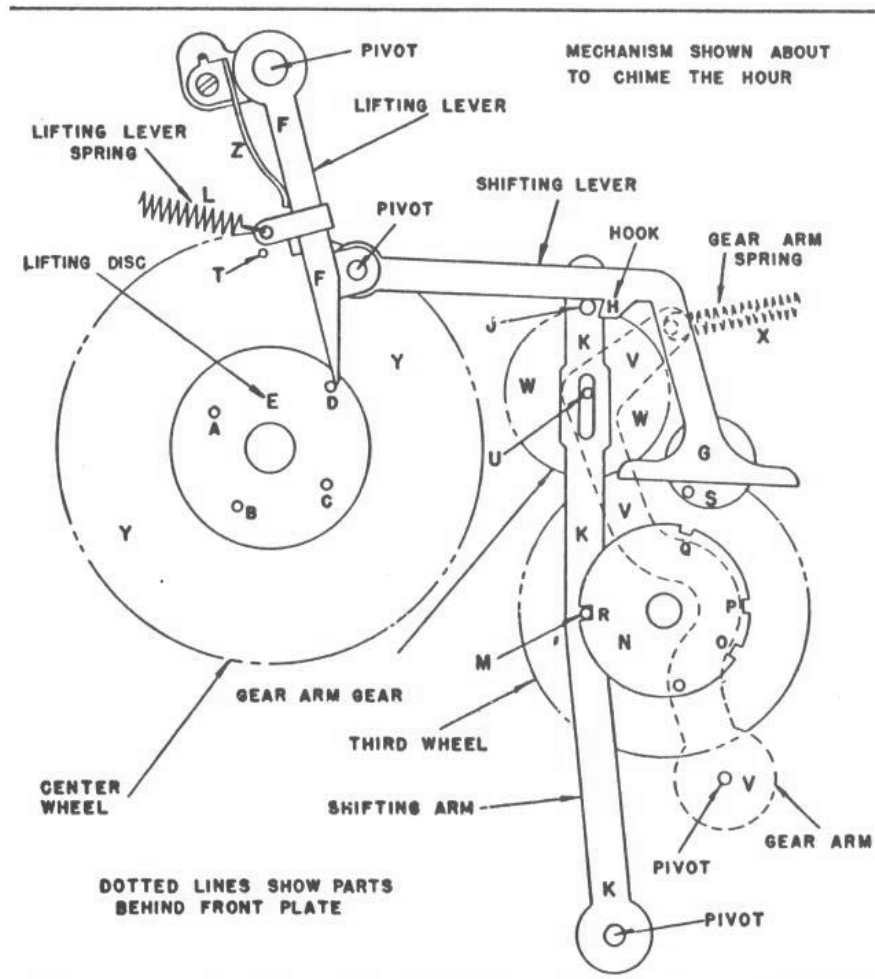

Figure 6
See Figure 6, Page 13
2. Gear arm spring **X** may be too weak to pull gear arm **V** out of mesh. Strengthen spring by cutting off two or three coils. See Figure 6, Page 13.
3. Gathering pallet **S** may be loose on shaft and won't release shifting lever hook **H**. Reset with pin to bottom and tighten pallet by driving it on its shaft. See Figure 6, Page 13.
1. Lifting lever spring **L** may not be strong enough to overcome gear arm spring **X** to pull pin **M** completely out of its slot in the locking disc **N**. The teeth may be slightly in mesh and the disc **N** will turn, locking the pin **M** against the slot in disc **N**. Strengthen lever spring **L** by cutting off a coil or two. See Figure 6, Page 13.